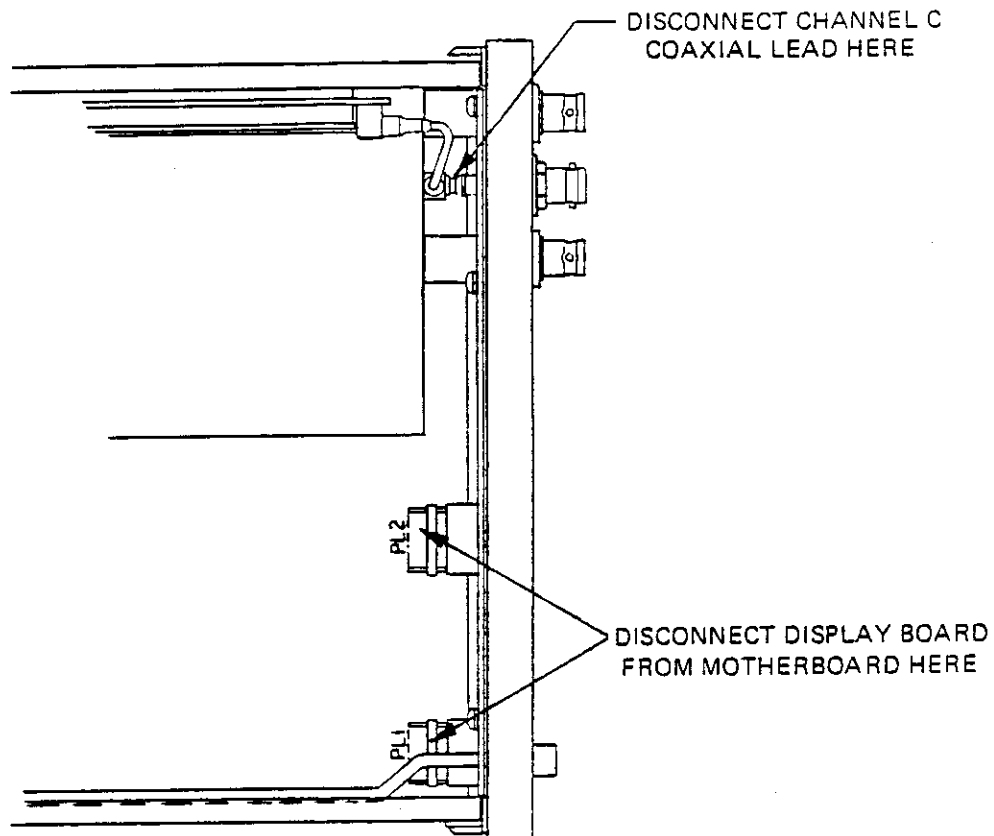

Figure 6.7 - Display Board and Channel C Disconnection
- d. Ease the front panel forward until the display board disconnects from the motherboard at PL1 and PL2. See Figure 6.7
- e. Disconnect the coaxial lead from the back of the Channel C input. See Figure 6.7